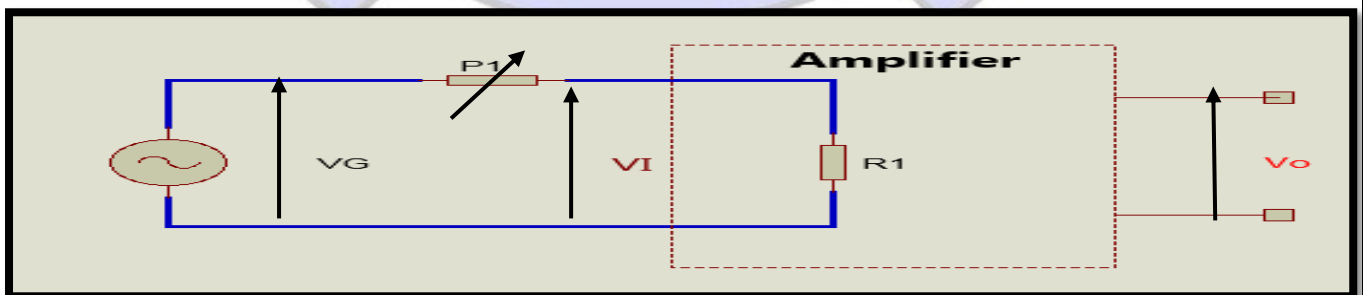

Fig.6 - Determination of the input resistance for the CE amplifier M1001F6
- P_2 is slowly raised from its initial null value, to a point where the amplifier output signal is halved. This happens since the input signal is also halved. (see Fig .6), i.e. $P_2 = R_i$.
This value equals the input impedance of the amplifier (refer to Fig.6)